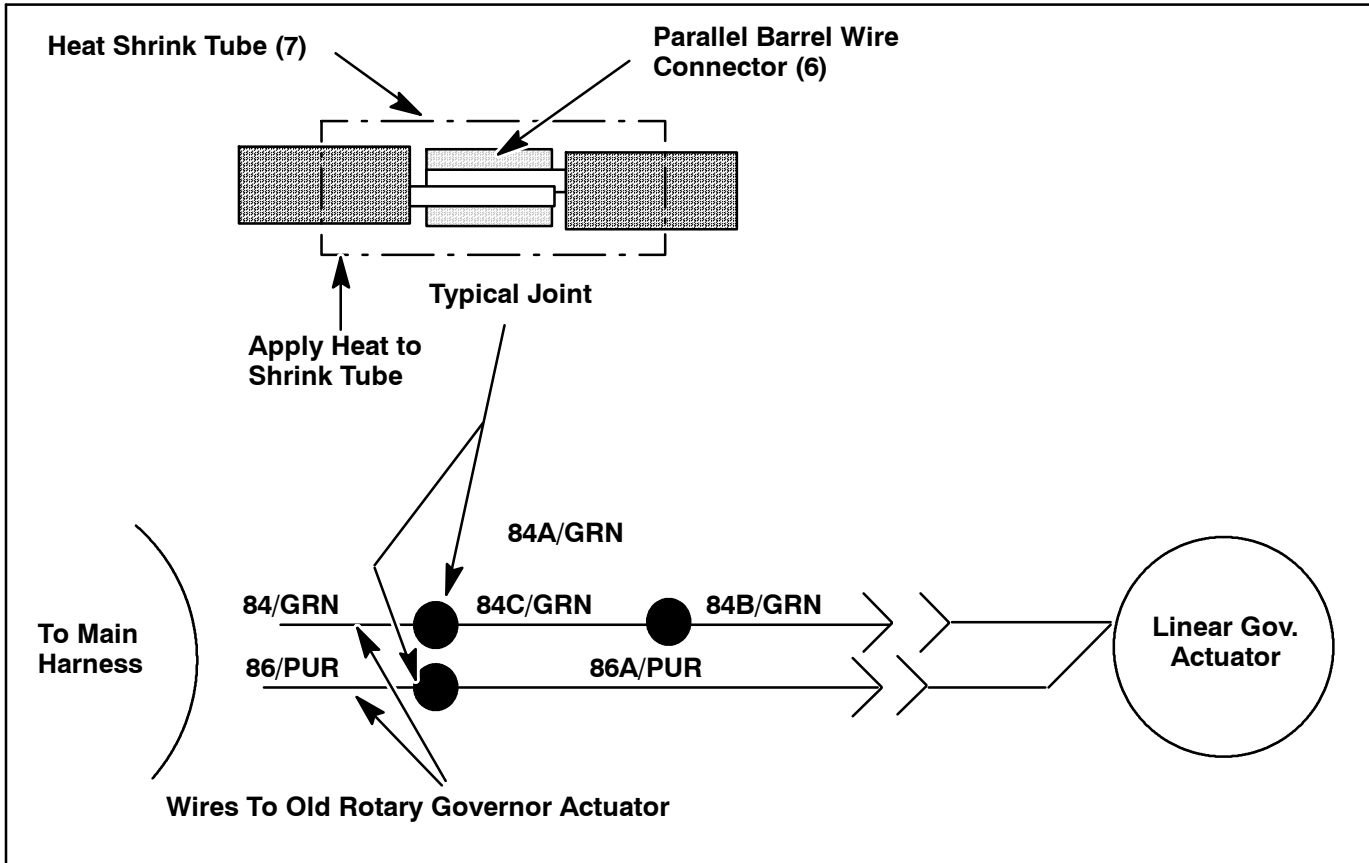

FIG. 2-Diesel Governor Actuator
1. Remove the terminals from the 84/GRN and 86/PUR wires at the existing governor actuator. Refer to Fig. 2.
4. Use the connector splices (6) and heat shrink tubes (7) to connect the new governor adapter harness (5) to the main harness. Refer to Fig. 2.
5. Connect wire harness as shown in Fig. 2